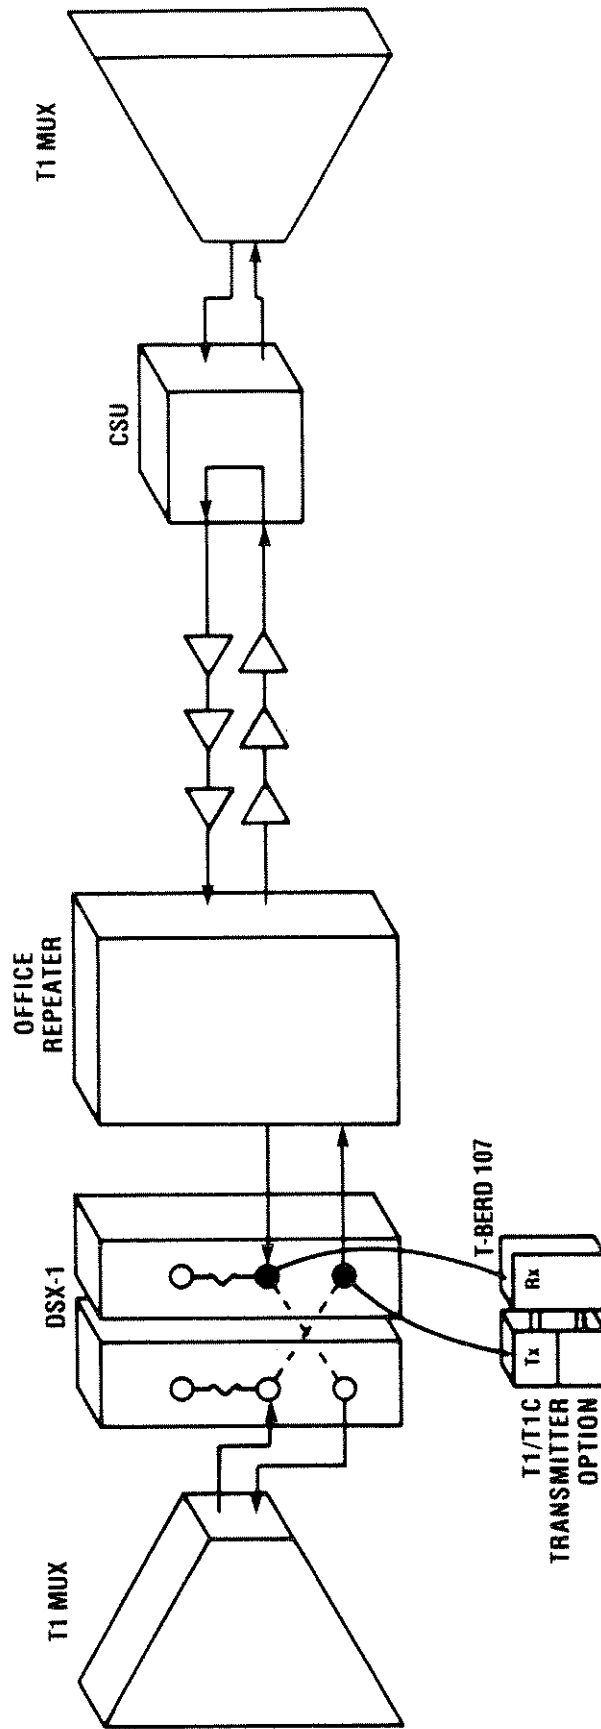

Figure 5-4
Figure 5-4 shows the test setup. The T-BERD 107's INPUT is connected to the DSX patch panel OUT jack. The T1/T1C Transmitter OUTPUT jack is connected to the DSX patch panel IN jack.
8.	Connect a cable between the T1/T1C Transmitter's OUTPUT jack and the DSX patch panel IN jack of the circuit to be tested (See Figure 5.4).